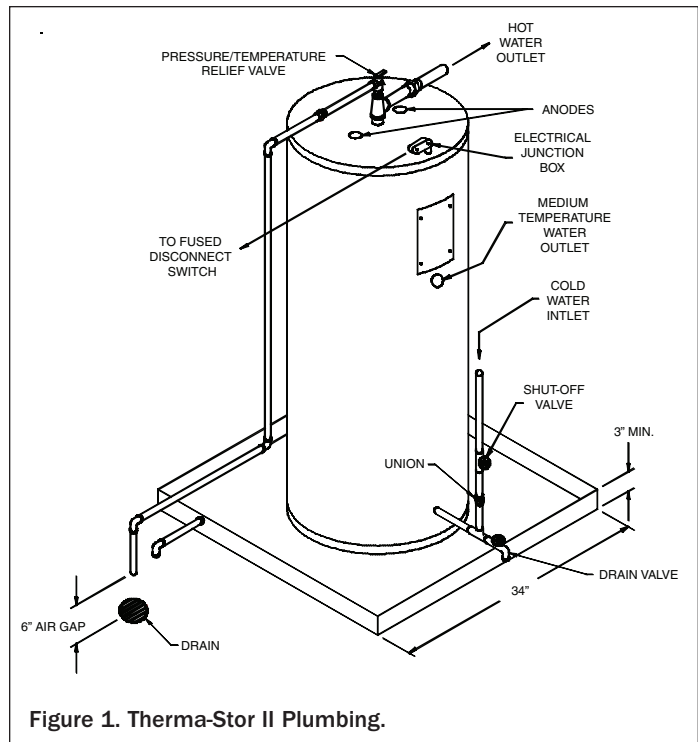

Figure 1. Therma-Stor II Plumbing.
4. Locate the Therma-Stor III in an area where water would not damage the surroundings or critical areas of the building if a fitting leaks. If a pitched floor to an open drain is not available, a catch pan should be constructed. See Figure 1.
2. The cold water inlet is located at the bottom of the tank. Provide a union, shut-off valve, and drain valve for this connection. Refer to Figure 1 for typical arrangements.